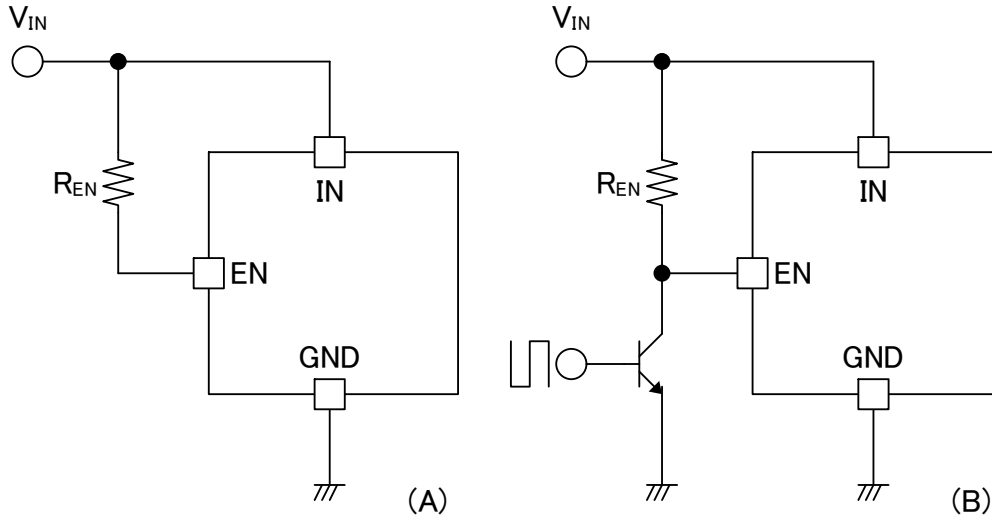

Fig. 7-2 Remote ON/OFF operation by EN terminal
The Fig7-2(B) is the option of the "Remote ON/OFF control" by using the EN terminal. By using switch such as Open-collector and, by removing the EN terminal voltage  $V_{EN}$  to GND level (Low), it is possible to turn OFF. In case of without ON / OFF operation by external signal, please use the Fig7-2 (A) connection. It is started by the applying of the  $V_{IN}$ , and it is stopped by shut-off of the  $V_{IN}$ .  $R_{EN1}$  is recommended 100[k $\Omega$ ].